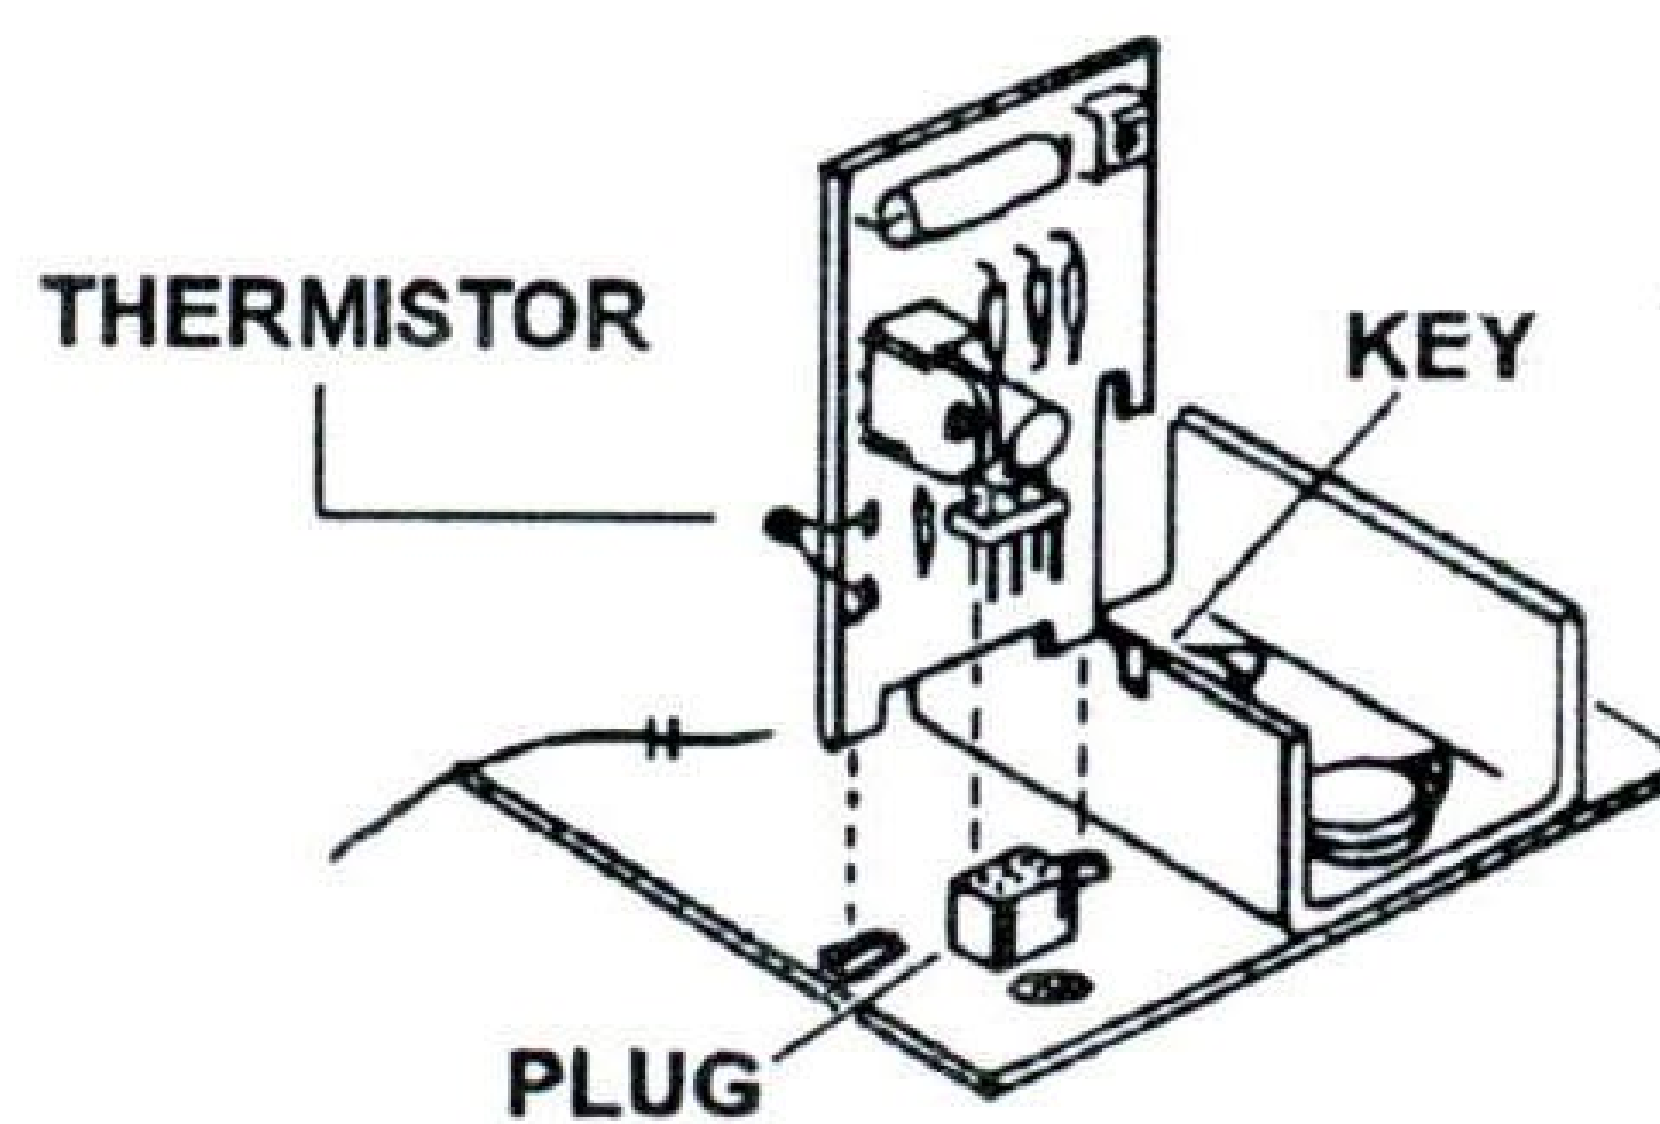

Figure 1
4. Locate the AFS. It is a circuit board with a small grey disc connected to the circuit board by two (2) silver wires (similar to Figure 1). Carefully bend the thermistor so that it is located in the center of the opening and approximately $\frac{1}{8}$ " from the inside edge of the power pack assembly.